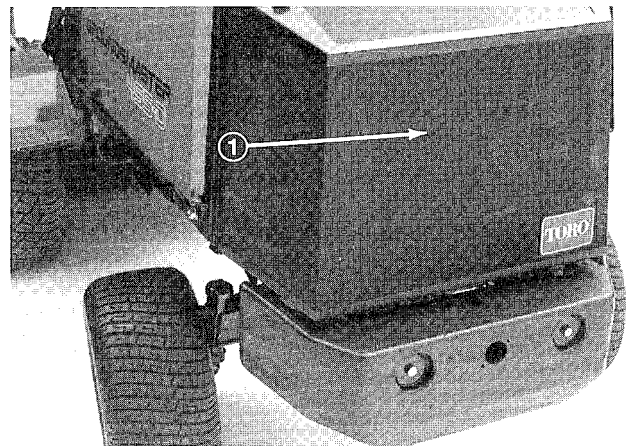

Figure 40
ENGINE COOLING SYSTEM (Fig. 40–41)
B. Unscrew knobs and remove rear screen (Fig. 40). Clean screen thoroughly.